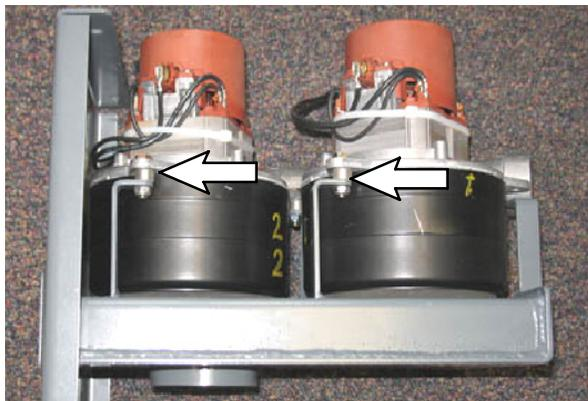

FIG. 2
NOTE: Install the three sleeves (5) between vacuum fan mounting brackets and vacuum fans (1) if installing kits on a machine equipped with dual vacuum fans mounted on brackets 3" or less in height. Refer to Fig. 2.